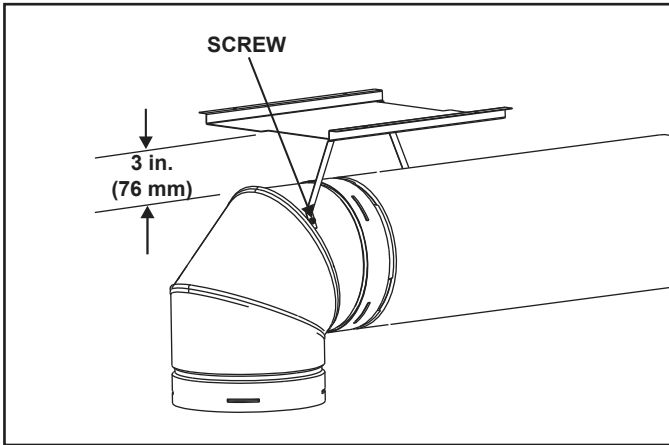

Figure 4.11
- If the combustible materials are not in place at the time of install the elbow heat shield may be screwed to the exhaust pipe (see Figure 4.11). Cut the tabs as shown and bend down. Secure the heat shield to the pipe maintaining 3 inch to 4 inch between the pipe and shield.